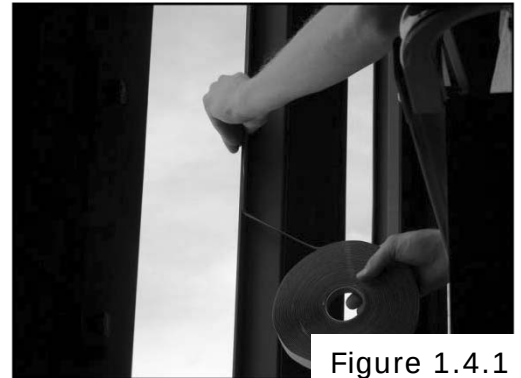

Figure 1.4.1
3. Lay butyl tape around the window edge as close to the edge as possible. (Figure 1.4.1) Start in a corner, leaving the tape extending beyond the corner slightly to allow overlap. Notch the butyl tape wrapper to allow the tape to cover the corners and insure a complete seal.